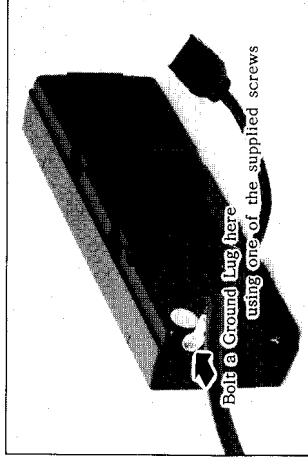

Figure 5.
- 2) Disconnect the short interconnecting cable at the back of the Controller, and connect the mating end of the extension cable in its place. Attach the shield grounding lug on the extension cable braid to one of the vacated holes on the edge of the Controller (Figure 5).